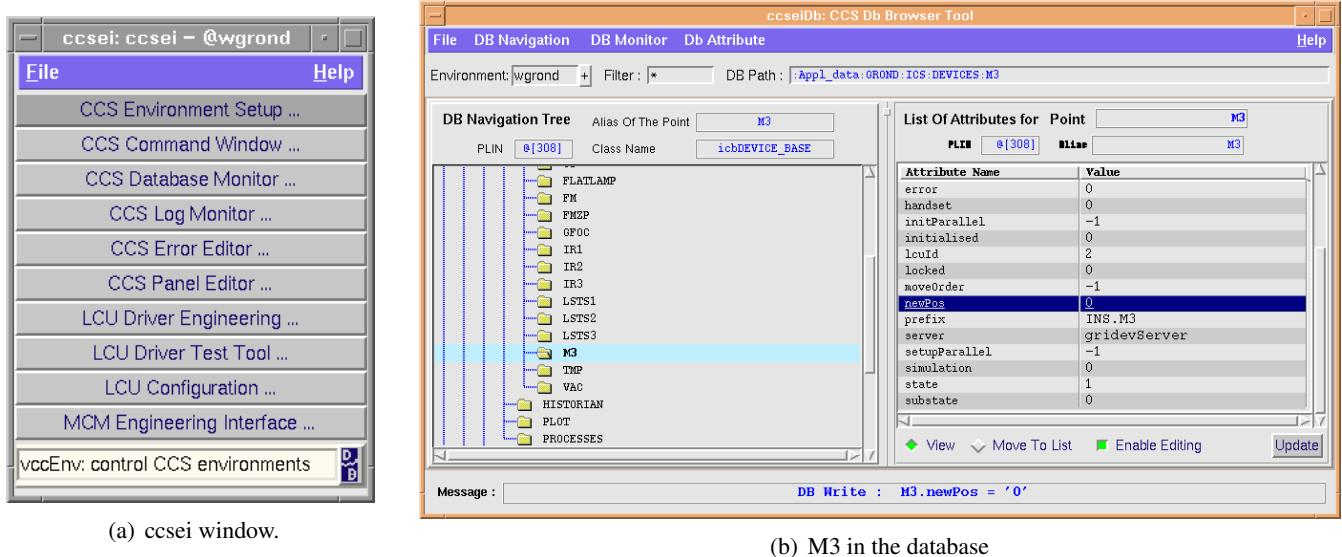

Figure 10.10: Writing the M3 position in the database
- Write the mirror position in the database (Fig. 10.10, p. 90)